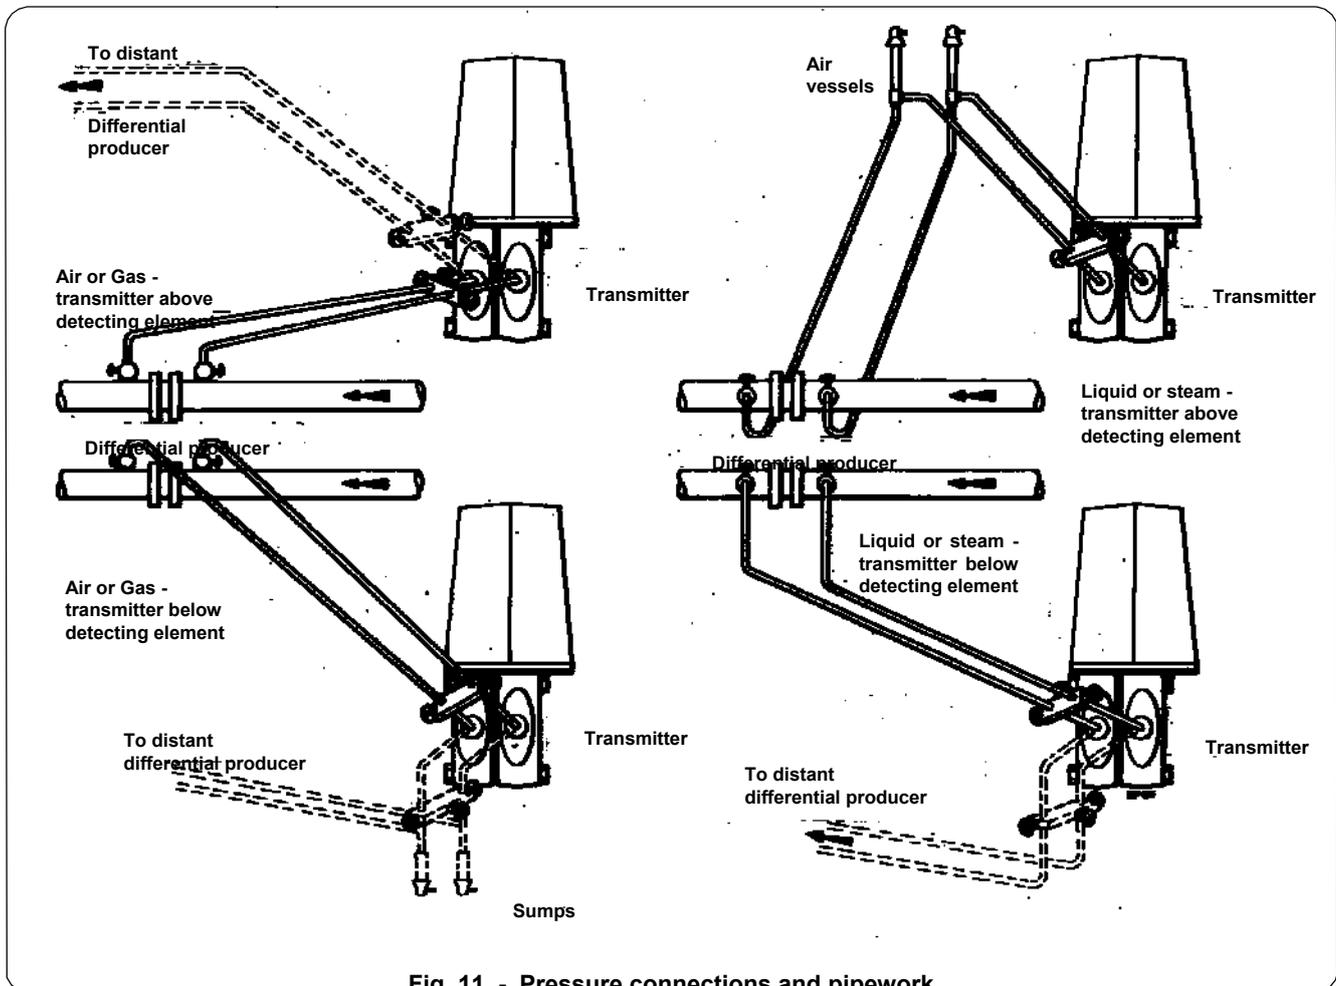

Fig. 11 - Pressure connections and pipework
## Pressure connections and pipework (Fig. 11)
Fig. 11 gives a typical piping arrangement for the transmitter when used in conjunction with an orifice plate in the flow main. The diagrams show the positions of the high (upstream) and low (downstream) connections in the detecting element. A shut-off valve should be included in each connection to the main and a by-pass (equalizing) valve connected across the inputs to the transmitter as shown. Alternatively a valve manifold (54 mm or 2.125 inches input centres) may be used.
### Putting into service (Fig. 11)
- b) Fully open the by-pass (equalizing) valve (Fig. 11) and then crack open the valve to the high pressure (upstream) side. For liquid measurement, any air trapped in the measuring unit must be vented via the vent valves.